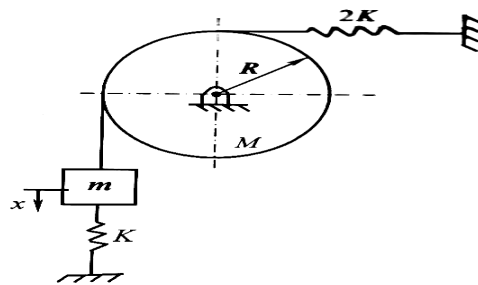

Fig. Q1(b)
- b. Obtain the natural frequency of vibration of the spring-mass-pulley system shown in Fig. Q1(b), using energy method .